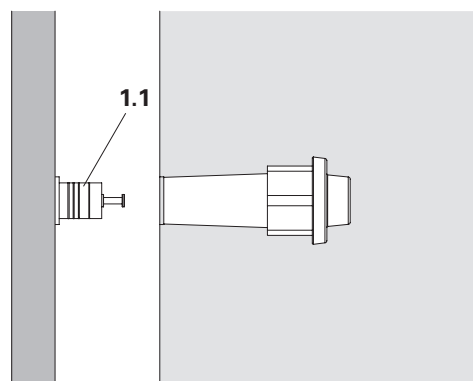

Fig. A1.05
4. Strike the formwork with nail plugs (**1.1**). (Fig. A1.05)